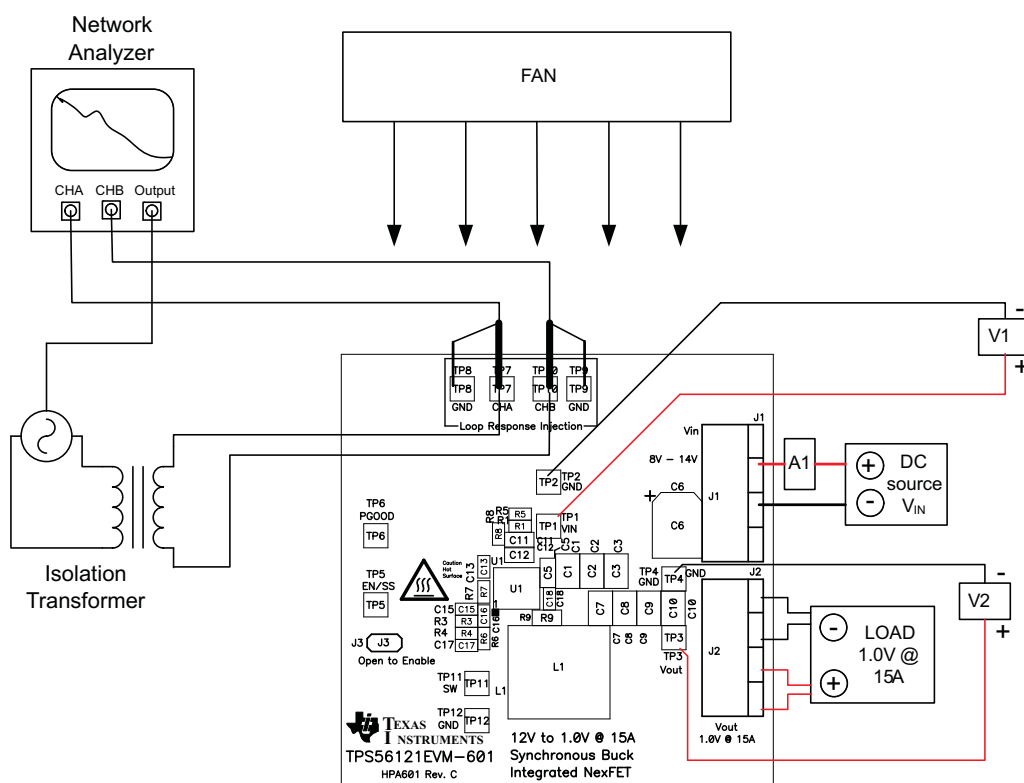

Figure 4. Control Loop Measurement Setup
2. Connect isolation transformer to test points TP7 and TP10 as shown in Figure 4.
3. Connect input signal amplitude measurement probe (Channel A) to TP7 as shown in Figure 4.
4. Connect output signal amplitude measurement probe (Channel B) to TP10 as shown in Figure 4.
5. Connect ground lead of Channel A and Channel B to TP8 and TP9 as shown in Figure 4, respectively.